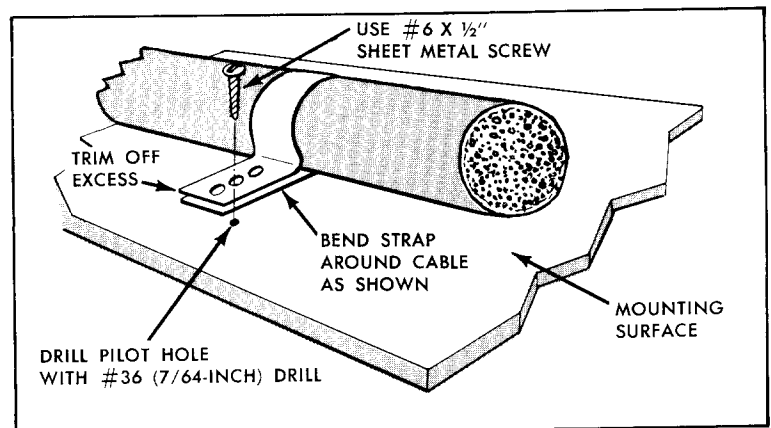

Figure 7—Installing Cable Straps
3. Use the 3-inch cable straps and #6 self-tapping screws provided in the Basic Mounting Hardware to secure the cables neatly in place. See Figure 7.
Leave at least 18 inches of slack cable at the location of the Two-Way Radio and run the terminal end of the Power Cable to the vicinity of the Fuse Assembly. Power leads connect to the Fuse Assembly as shown in Figure 8C. Secure the cable by means of cable straps as shown in Figure 7.